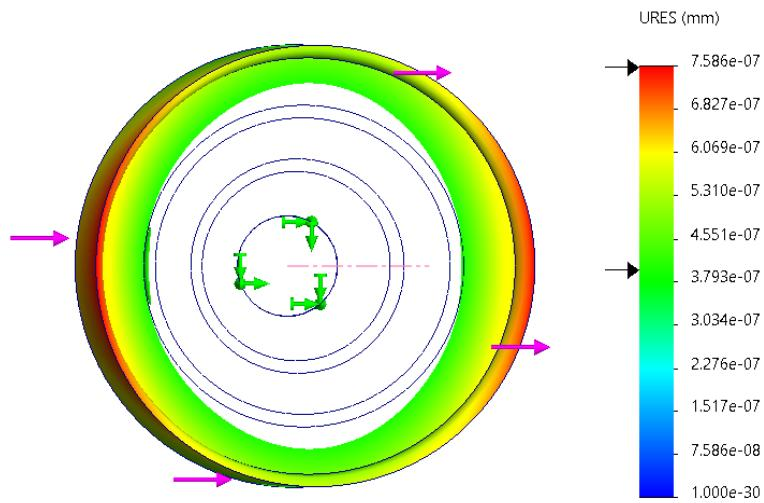

Fig 18: iso plot within defined range
- To examine portions of the model within a desired stress range, an iso plot with two iso values referencing the lower and upper stress limits can be created (Fig 18). Right-click on the plot > select iso Clipping > select range.